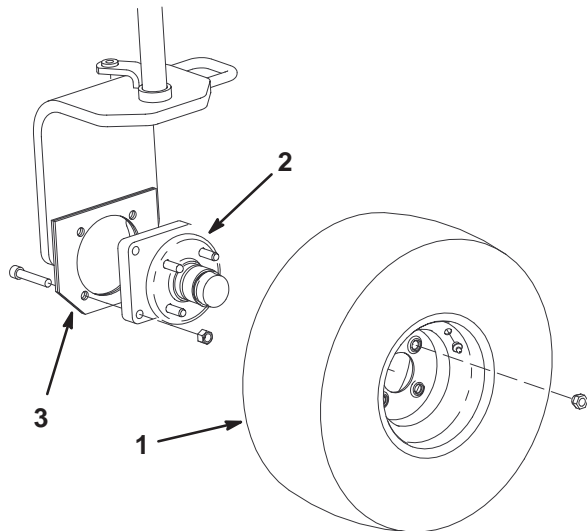

Figure 1
2. Lift the rear of the traction unit and remove the lug nuts securing the tire assembly to the wheel hub (Fig. 1). Retain the lug nuts.
3. Remove the bolts and nuts securing the wheel hub assembly to the castor fork (Fig. 1). Discard the wheel hub assembly but retain the bolts and the nuts.